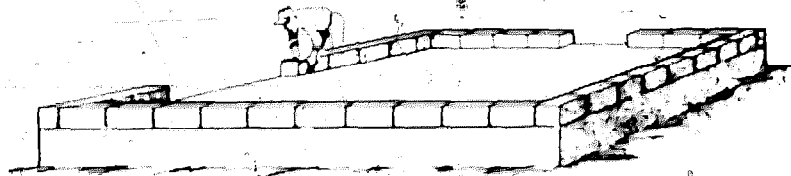

Figure 60b.
*LAYING THE BLOCKS*—After the correct mortar mix has been selected and the termite shields and door frames are in place, the blocks are ready to be laid. The usual procedure is to place the first layer of blocks around at least most of the house as shown in Figure 60b. Leave space for the mortar in the joints, but do not put it in. This step provides the correct block spacing for the remaining courses. When proper spacing has been obtained by trial the blocks are then laid with mortar.